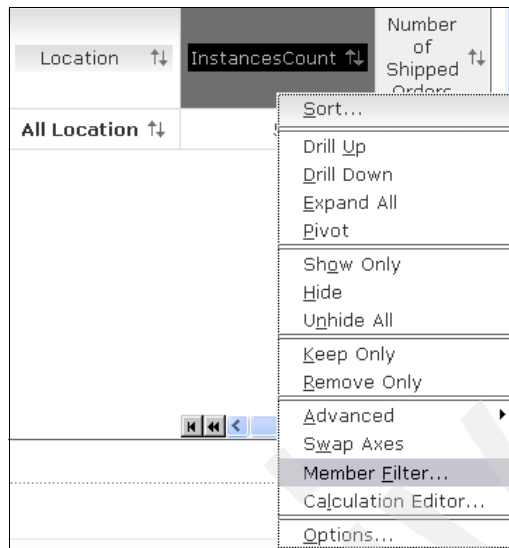

Figure 8-162 Selecting the Member Filter menu
14. In the initial Dimension view (Figure 8-162), right-click **InstancesCount** and click **Member Filter...**